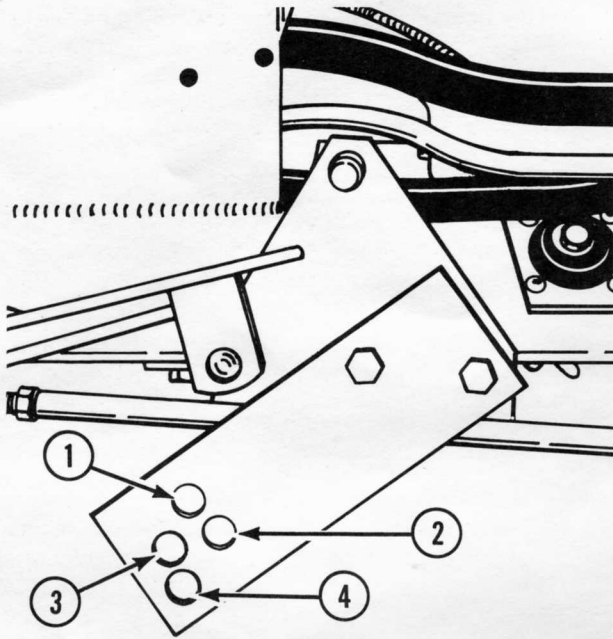
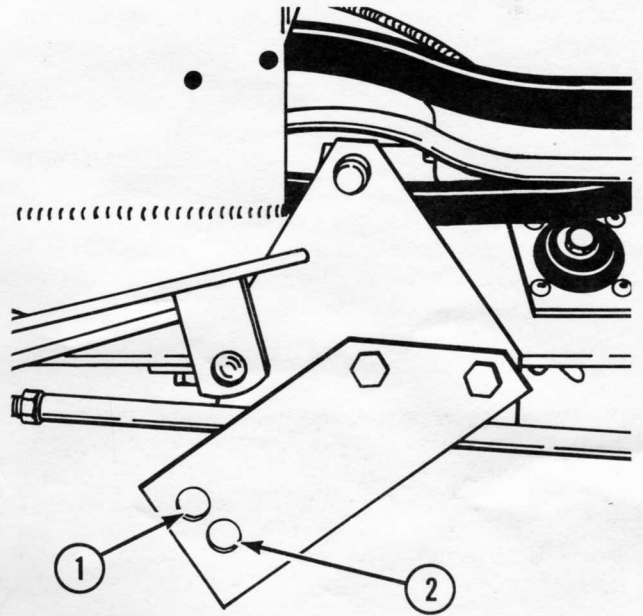

Figure 7
Figure 8
7. The rear of the blade lift arm mounts to the tractor lift adapter plate with the washer and safety pin remaining. Refer to Figure 7 for correct hole. (Refer to Figure 8 if adapter plate has 2 holes - used with early production). Release the brake.